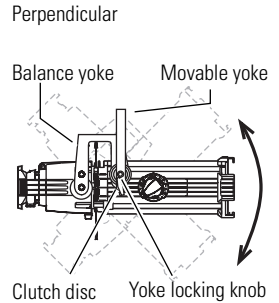

Figure 9
1. Adjust the balance yoke so that it is perpendicular to the luminaire as shown in **Figure 9**. If the front of the luminaire has several accessories, you may need to tilt the balance yoke towards the front of the luminaire to adjust the balance.